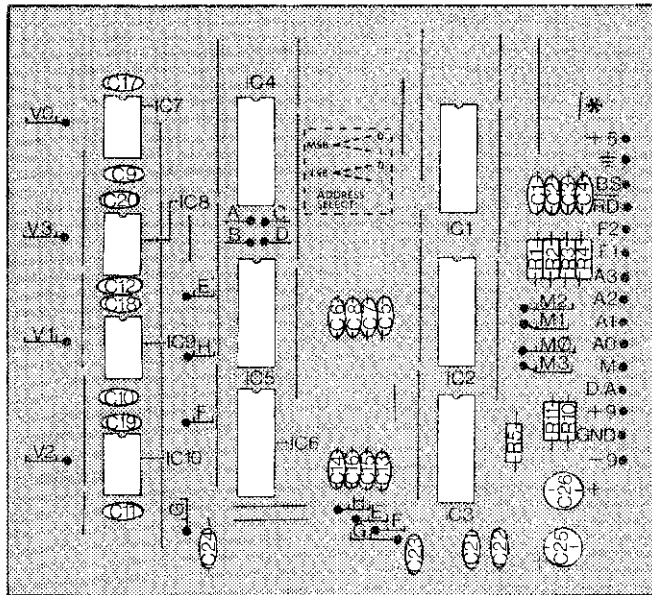

Figure 1
- (✓) Using the bare wire provided, form and install 27 jumpers as indicated by the solid lines in figure 1 and printed on the circuit board. When finished, count the jumpers to verify that 27 have been installed. Note that this number does not include the jumpers which will be installed within the dashed box labeled "address select". These jumpers will be installed later.
Solder each of the fixed resistors in place following the parts placement designators printed on the circuit board and the assembly drawing figure 1. Note that the fixed resistors are non-polarized and may be mounted with either of their two leads in either of the holes provided. Cinch the resistors in place prior to soldering by putting their leads through the holes and pushing them firmly against the board. On the conductor side of the board bend the leads outward to about a 45° angle. Clip off each lead flush with the solder joint as the joint is made.